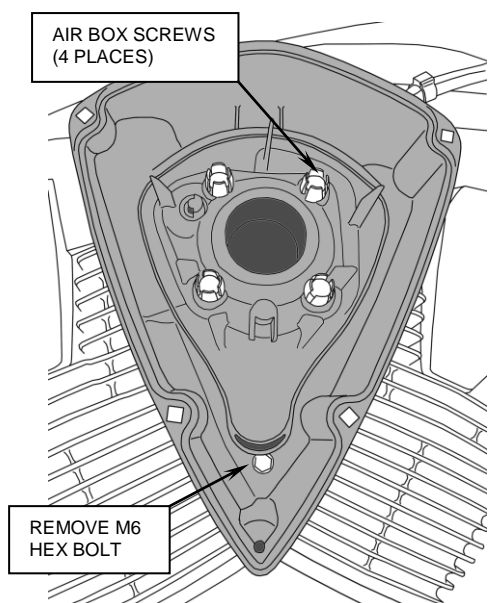

FIGURE 1
1. Remove the (4) bolts that hold on right side air cleaner cover. Remove chrome cover and filter from air box.
2. Remove the air box by loosening the (4) screws around the air inlet. Remove those screws from the cylindrical tabs on the air box. Then remove the (1) M6 hex bolt from the lower portion of the air box. See Figure 1. The air box needs to be pulled outward to remove it from the throttle body adapter.